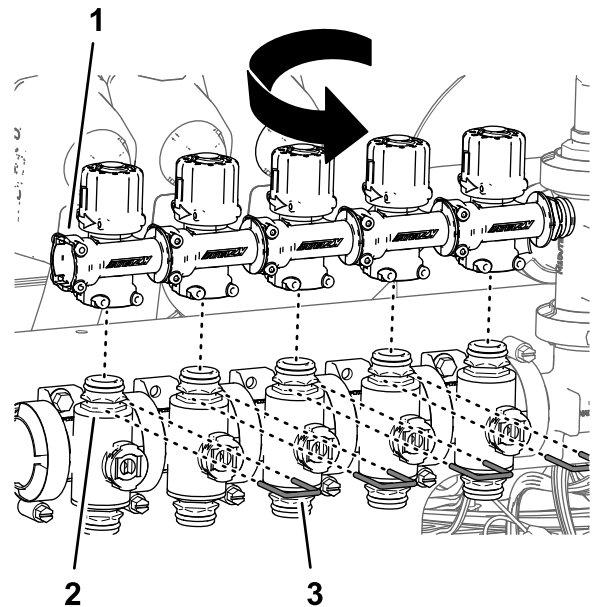

Figure 101
6. Rotate the bypass valves 180° and assemble them onto the quick disconnect fittings of the section valves (**Figure 101**).
7. Secure the bypass valves to the section valves with the retainers (**Figure 101**) that you removed in step 4.
9. Assemble the caps onto the quick disconnect fittings of the bypass valves for nozzle-valve 5 and nozzle-valve 6 with the retainers provided with the caps (Figure 101).